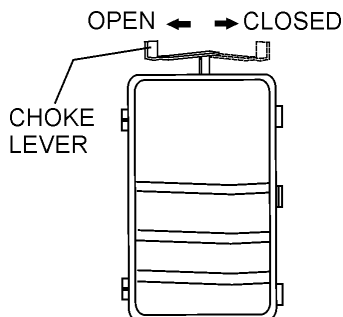

Figure 12. Choke Lever
2. Place the **choke lever** (Figure 12) in the "CLOSED" position if starting a **cold** engine.
- If the engine has started, slowly return the choke lever (Figure 12 ) to the **"OPEN"** position. If the engine has not started repeat steps 1 through 5.